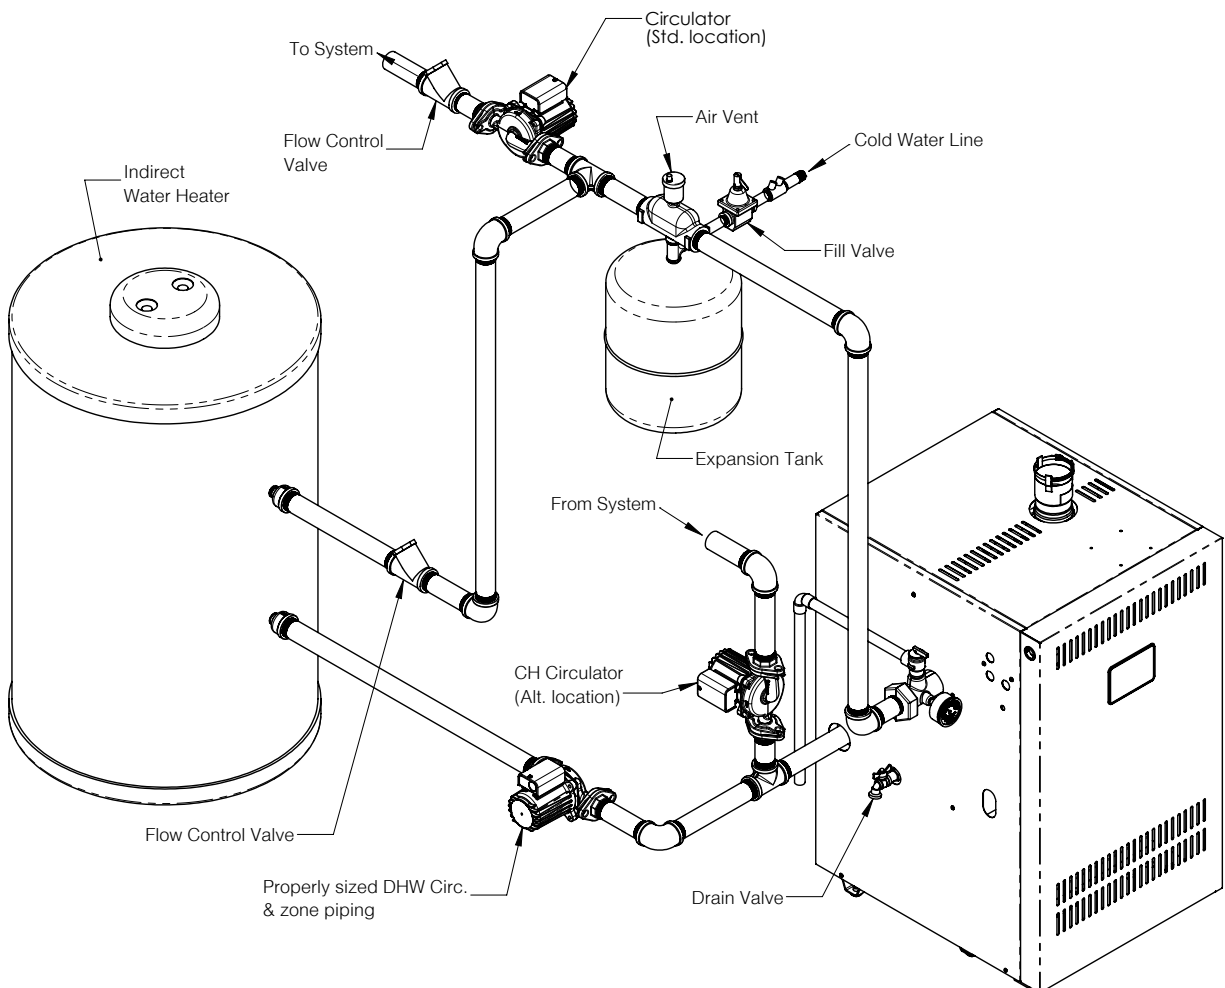

Figure 8-3: Indirect Water Heater Boiler Side Piping
- A. Indirect Water Heaters - Figure 8-3 shows typical indirect water heater piping. Boiler piping is the same as for any two-zone system. Figure 8-3 shows circulator zoning, which is usually preferred for indirect water heaters. Size the circulator and indirect water heater piping to obtain the boiler water flow through the indirect water heater called for by the indirect water heater manufacturer.